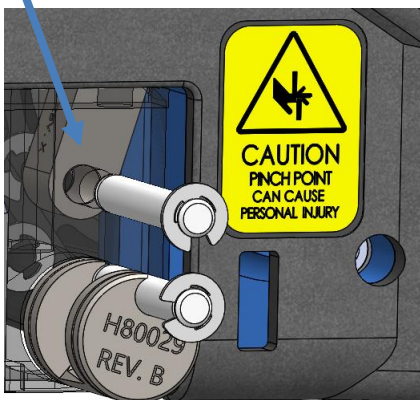

Figure 74
Apply a film of grease on the pins and knife and reassemble. Ensure that the upper pin goes through the trigger assembly linkage (7) (Fig. 74). Apply Blue Loctite to screws. Only pull-on gray cable jacket when connecting head sensor.